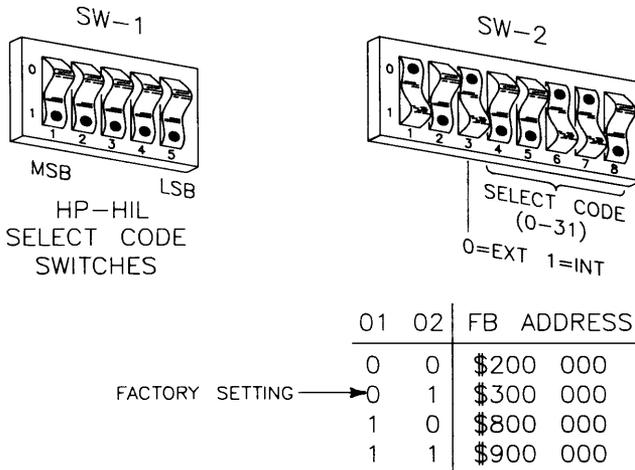

Figure 2-7. Setting the Switches
1. Set the switches as desired. See Figure 2-7.